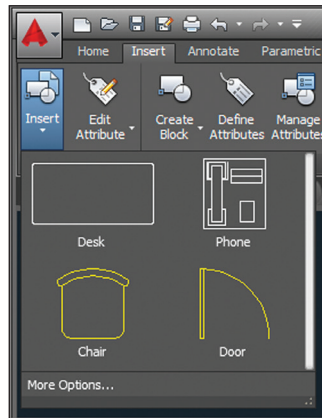

FIGURE 7.9 Selecting the Chair block definition in the Insert dialog box
4. Click the Insert tool on the Block panel on the ribbon's Home tab. This opens the block gallery, a graphic menu of block thumbnails defined in this drawing. If you don't see the block gallery, set the GALLERYVIEW system variable to 1. Select the chair icon to insert this block (see Figure 7.9).